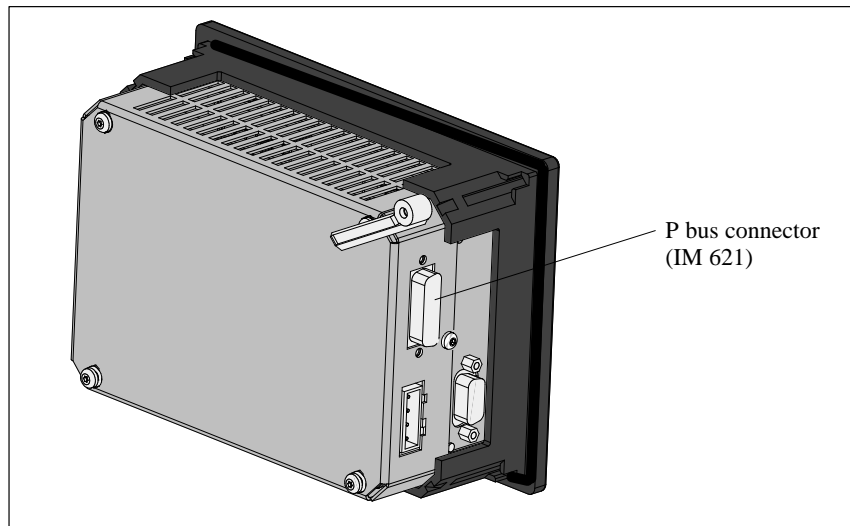

Figure 2-9 C7-621 with IM 621 Connector
2. Connect the C7-621 or C7-621 AS-i to the IM 621 interface module via an IM 621 standard cable (for the connection to C7, see also Figure 2-9). An IM 621 cable is supplied with the module and is connected to the IM 621 interface module.